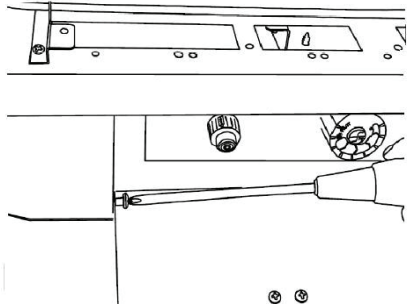

Figure 32 - BD23 Series, Control Panel Door
16. **BD23 Series** Remove screws securing control panel door (see Figure 32).